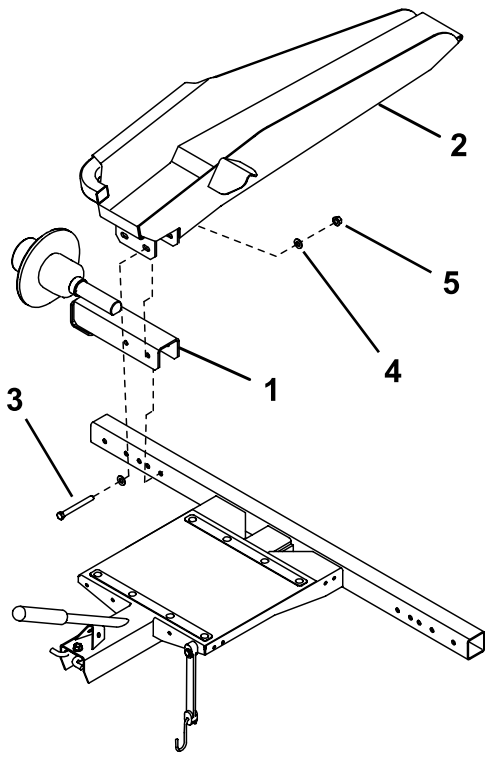
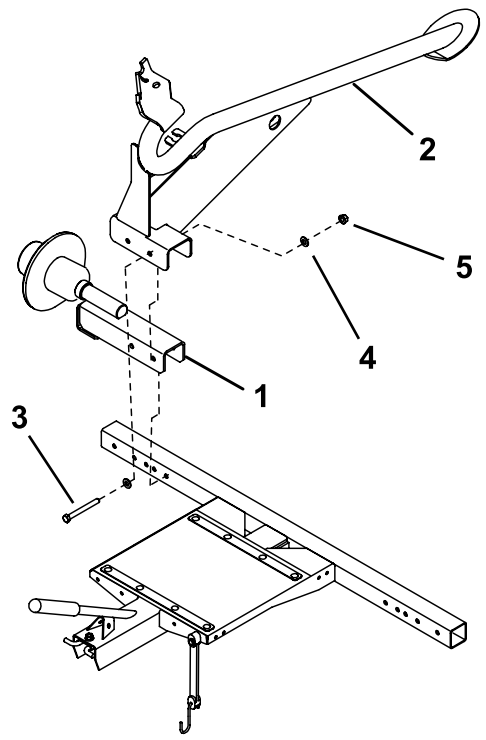

Figure 3
Figure 4
2. Mount the axle assembly and a ramp assembly (Figure 3) or rail assembly (Figure 4) to each end of the frame with 2 bolts (3/8 x 3 inches), 4 washers, and 2 nuts.